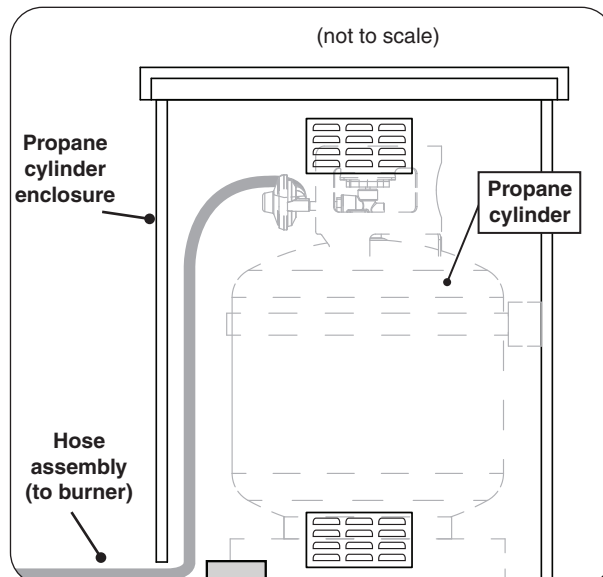

Fig. 26-3 L.P. Cylinder placement
3. The propane cylinder (not included) is to be located inside the separate propane cylinder enclosure (see Fig. 26-3).